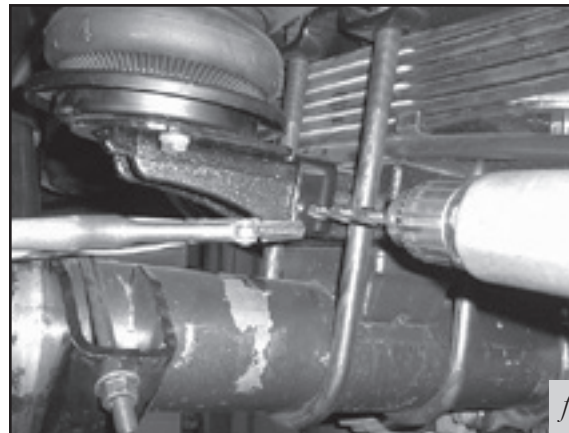

fig. 15
9. Clamp the lower bracket to the strike plate with c-clamps or vice grips. Drill a 3/8" hole through the strike plate using the existing holes in the lower bracket as a template (Fig. 15).